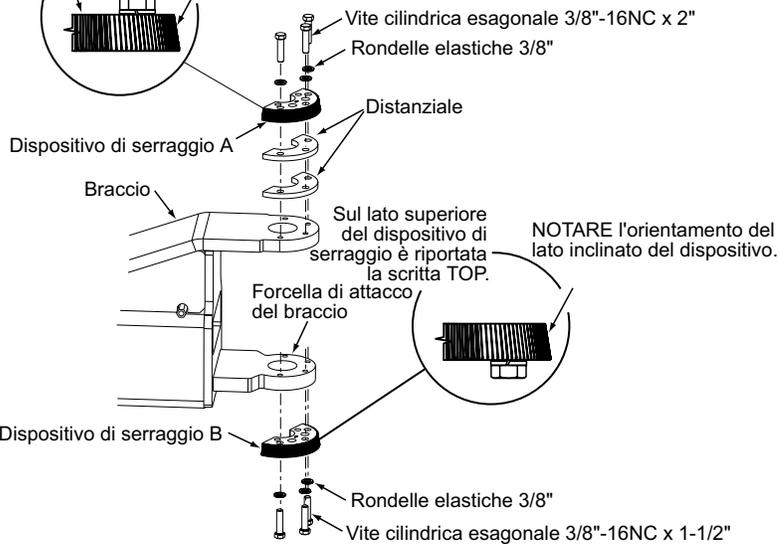

Fig. 29
- Install Restraint Gear **B** with (3) 3/8"-16NC x 1 1/2" Lg. and 3/8" Spring Lockwashers as illustrated Fig. 29, but do not tighten.